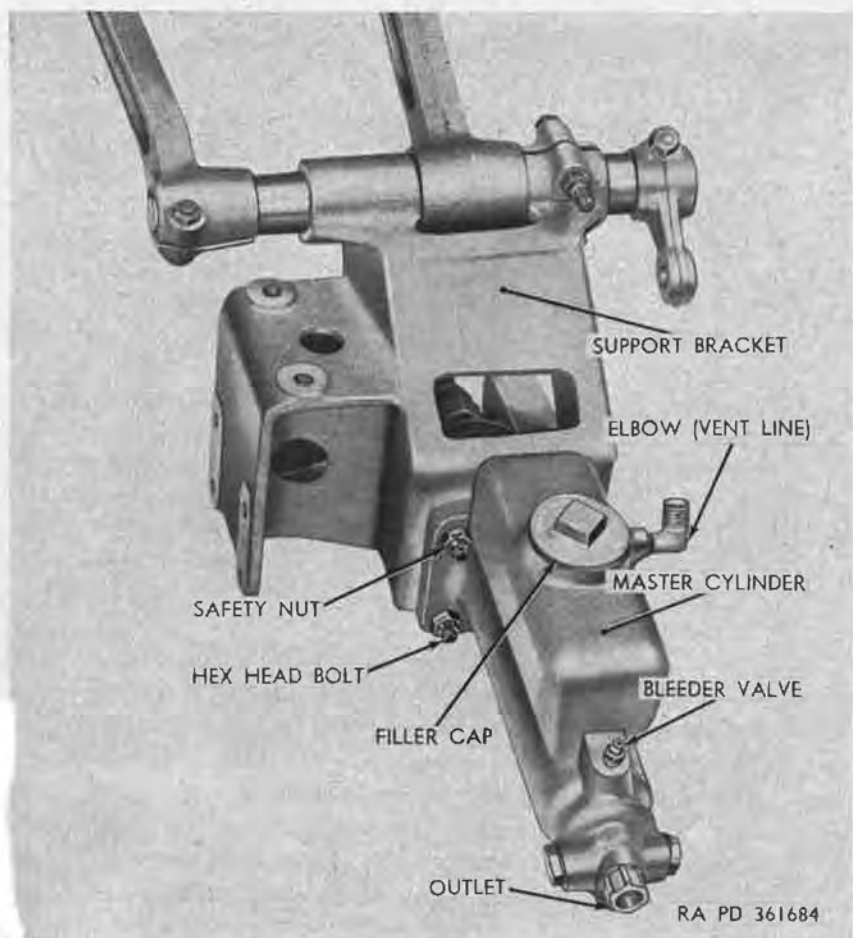

Figure 236. Rear view of brake pedal linkage and master cylinder.
- (1) *Service brake system*. The service brake system is an air assisted hydraulic system consisting of the brake pedal linkage, master cylinder, air-hydraulic cylinder, wheel cylinders, connecting lines and hoses for hydraulic fluid, and brake shoes.
- (a) *Brake pedal linkage* (figs. 236 and 237). The brake pedal linkage is comprised of a pedal secured to a lever, which is pivoted on a bracket bolted to the frame left side rail. The lower end of the pedal lever is pinned to a yoke on the front end of the master-cylinder piston rod. The upper end of the pedal lever is secured to the brake pedal (AA, fig. 65), which extends through the floor board into the cab.
- (b) *Master cylinder*. The master cylinder (fig. 236), bolted to the rear of the pedal lever bracket, consists of a hydraulic fluid reservoir, hydraulic cylinder with spring-loaded piston, and a check valve mechanism. Movement of the brake pedal linkage causes the piston inside the master cylinder to force fluid from the cylinder outlet through a connecting line into the air-hydraulic cylinder ((c) below).
b. Bleeding Master Cylinder (fig. 236).
- (1) Clean the bleeder tube over end of valve. Allow other end of tube to hang into a clean container, such as a pint glass jar.
- (2) Unscrew bleeder valve three-fourths of a turn and depress brake pedal slowly, checking the fluid flowing from the end of the bleeder tube for air bubbles. Hold pedals in depressed position.
- (3) Tighten bleeder valve, and slowly release brake pedal.